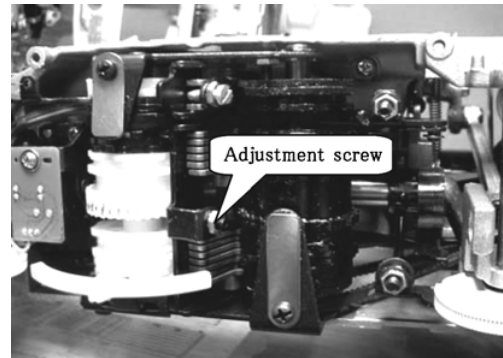

Fig.4
2. Turn the adjustment screw, adjust the needle location.(Fig. 4)